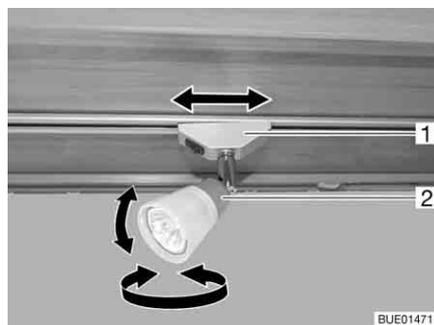

Fig. 24 Spotlight
- Grasp the housing (Fig. 24,2) and turn it.
Shifting: ■ Grip holder (Fig. 24,1) and turn by approx. 45°.
Removal: ■ Grip holder (Fig. 24,1) and turn by approx. 90°.